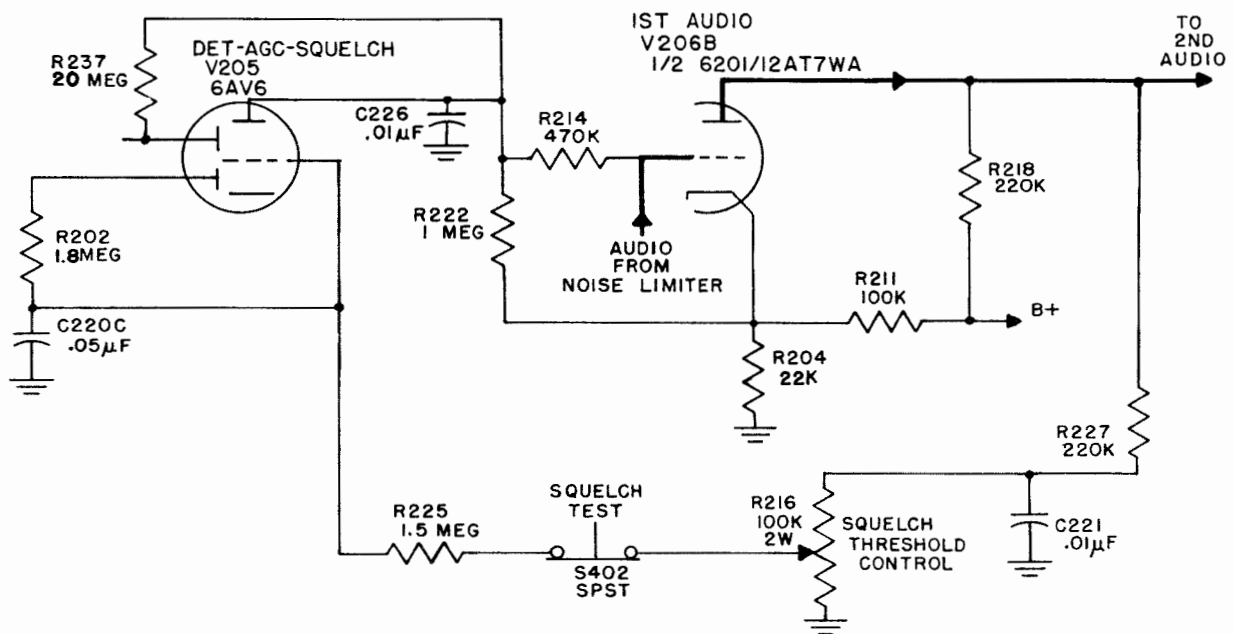

Figure 2-10. Simplified Schematic, Squelch Circuit
(4) SQUELCH OR SILENCER.—A squelch system consists, essentially, of a method of assessing the reception conditions and disabling the receiver when the desired signal is not present. In the simplified squelch circuit of figure 2-10, silencing the receiver is accomplished by biasing the grid of the first audio amplifier, V206, beyond cutoff. The triode section of 6AV6 (V205) is used as the "squelch" tube. The plate of this tube is connected to a B+ source, consisting of divider R211 and R204, through resistor R222. With one end of R222 connected to the cathode of the first audio tube V206 and the other end to the grid resistor R214 of V206, any current flow through R222 causes a voltage drop which makes the grid more negative with respect to the cathode and biases V206 to cutoff. R237 is a resistor that applies a slight amount of audio AGC to the grid of the first audio amplifier V206. C226 is used as a by-pass filter capacitor. When the squelch tube does not conduct, there is no voltage drop across R222, and the audio amplifier functions normally.